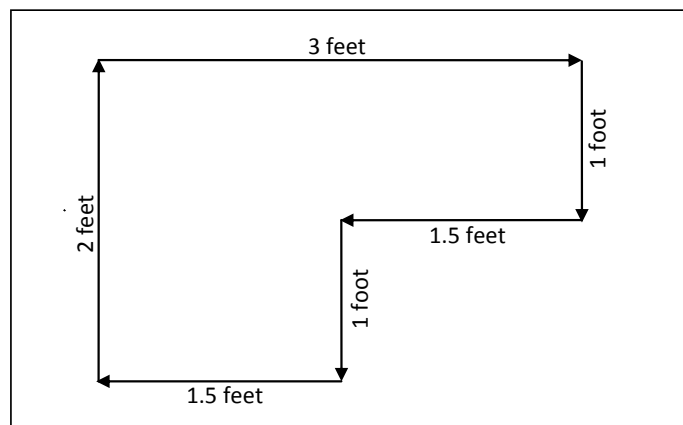
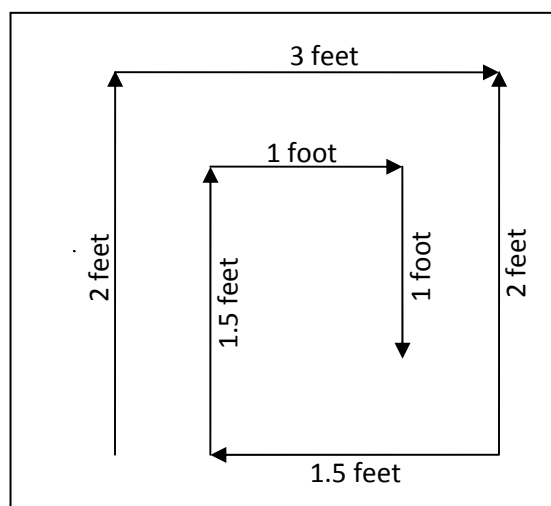

Figure 3: Navigate Path I
Figure 4: Path 2
Now, create a java program called NavigatePath.java that will make the Boe-Bot move in a path whose dimensions are given in Figure 3. All other aspects are up to you (whether to stop at each turn, which way to go, etc.). Note that we encourage modular programming, meaning that you should breakdown your work into methods. The `main` method should trace out the path as part of its task. In order to get work accomplished you should write your own methods to stop, turn, go forward etc. It's ok if your Boe-Bot is slightly off the path – it doesn't move in a consistent fashion. As long as it traces the path relatively well you have successfully completed your lab.
There are two paths you need to command your Boe-Bot to travel: Figure 3 and Figure 4. After you get each one to work successfully, have the instructor or TA sign off on your checklist.
3. What changes did you make to your Path I program (Figure 3) to accomplish the Path II navigation (Figure 4)?